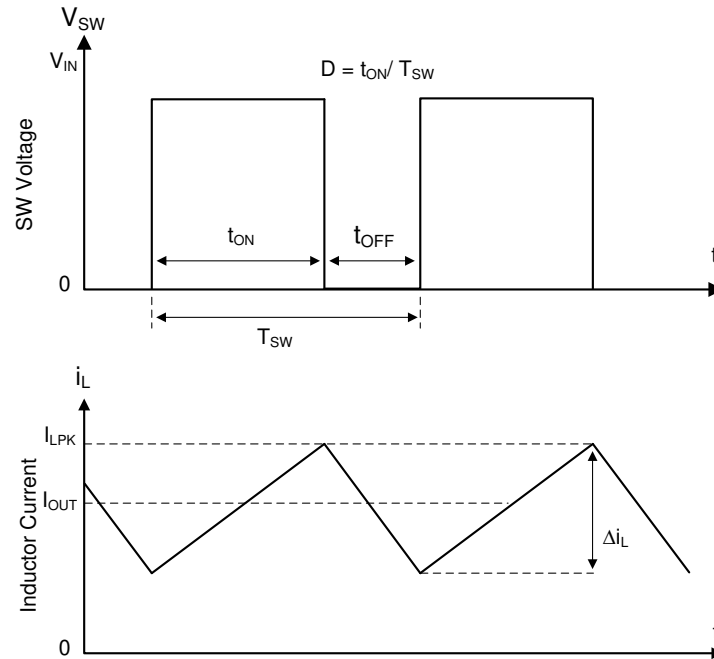

图 7-1. SW Node and Inductor Current Waveforms in Continuous Conduction Mode (CCM)
The following operating description of the LMR544xx refers to 节 7.2 and to the waveforms in 图 7-1. The LMR544xx is a step-down synchronous buck converter with integrated high-side (HS) and low-side (LS) switches (synchronous rectifier). The LMR544xx supplies a regulated output voltage by turning on the high-side and low-side NMOS switches with controlled duty cycle. During high-side switch ON time, the SW pin voltage swings up to approximately V_{IN} , and the inductor current, i_L , increases with a linear slope of $(V_{IN} - V_{OUT}) / L$. When the high-side switch is turned off by the control logic, the low-side switch is turned on after an anti-shoot-through dead time. Inductor current discharges through the low-side switch with a slope of $-V_{OUT} / L$. The control parameter of a buck converter is defined as Duty Cycle $D = t_{ON} / T_{SW}$, where t_{ON} is the high-side switch ON time and T_{SW} is the switching period. The converter control loop maintains a constant output voltage by adjusting the duty cycle D . In an ideal buck converter, where losses are ignored, D is proportional to the output voltage and inversely proportional to the input voltage: $D = V_{OUT} / V_{IN}$.